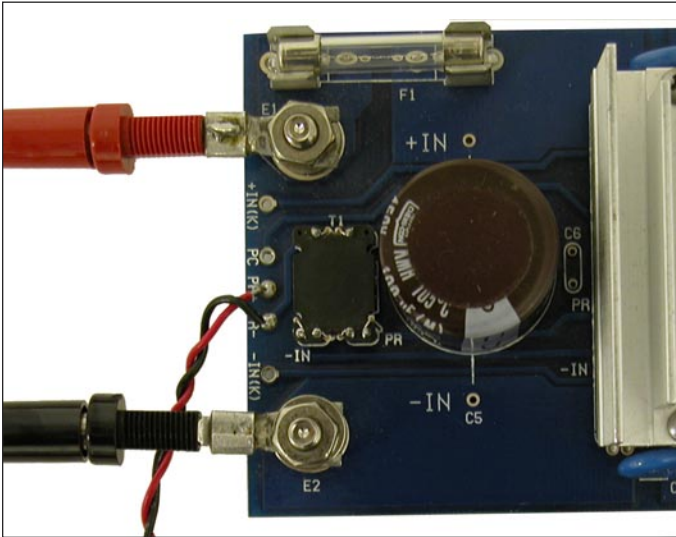

Figure 7: PR transformer and isolated PR bus
2. Connect the PR+ of the first board to the PR+ of the second board with one half of a short section of twisted pair. With the other half do the same for the PR- of the Evaluating Boards, Figure 7. The PR signal is a very fast pulse and requires a interconnect with good signal integrity. Do not use coaxial cable for the interconnect.